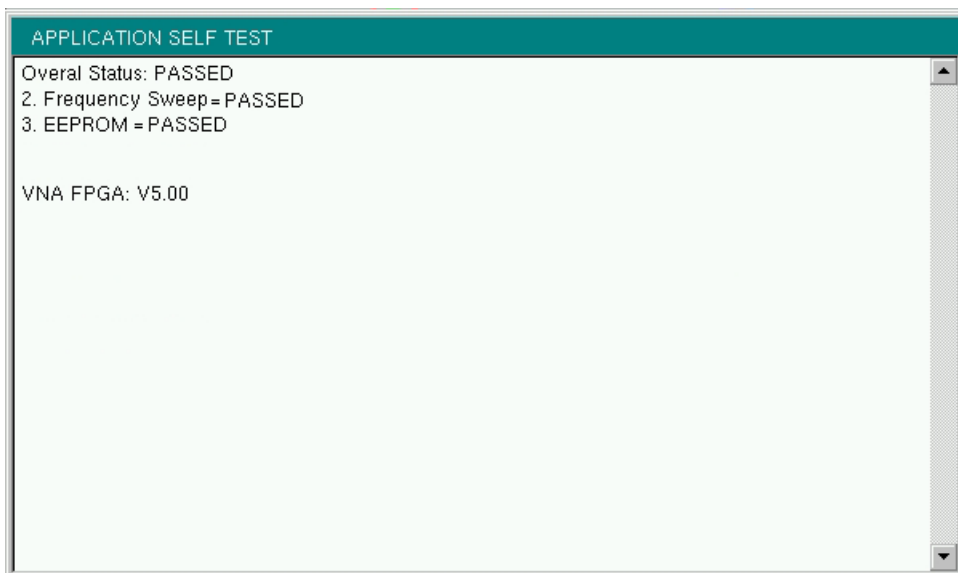

Figure B-2. Application Self Test
To run the application self test, press **Shift** and **System** (8) and then Application Self Test from within the desired mode. When you are in Vector Network Analyzer mode, you will see the results window that is shown in Figure B-2 (note that your instrument display may differ from this image), which summarizes the status of several key functions that are specific to this application.